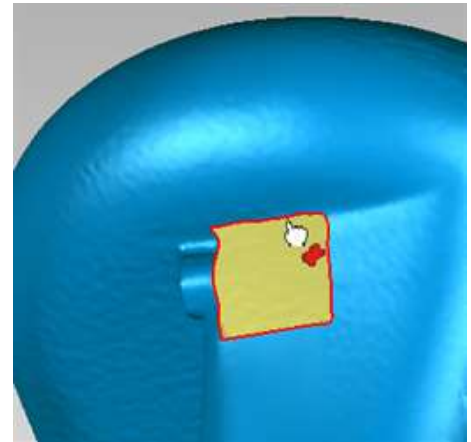

Figure 97
1. **Rotate** the object and locate the hole shown in **Figure 97**.